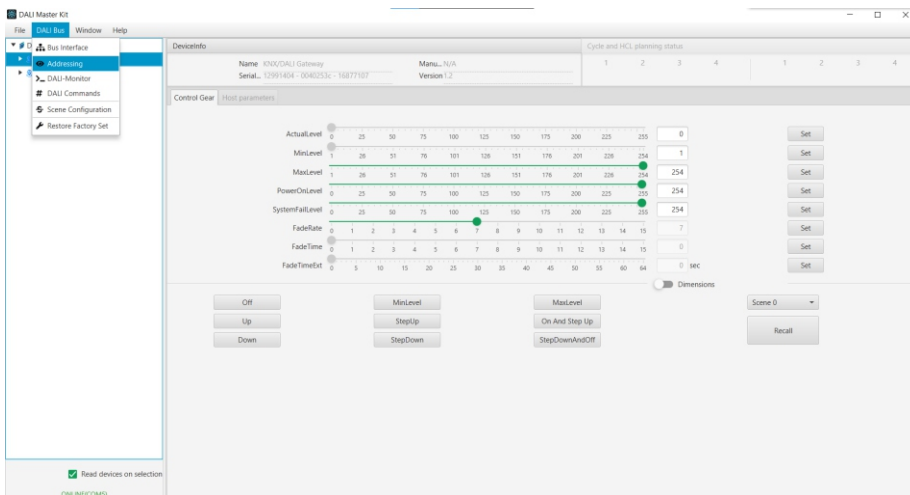

Figure 2
2.2. Click on "DALI Bus" to drop down the menu, then click to choose "Addressing" as shown in Figure 2.